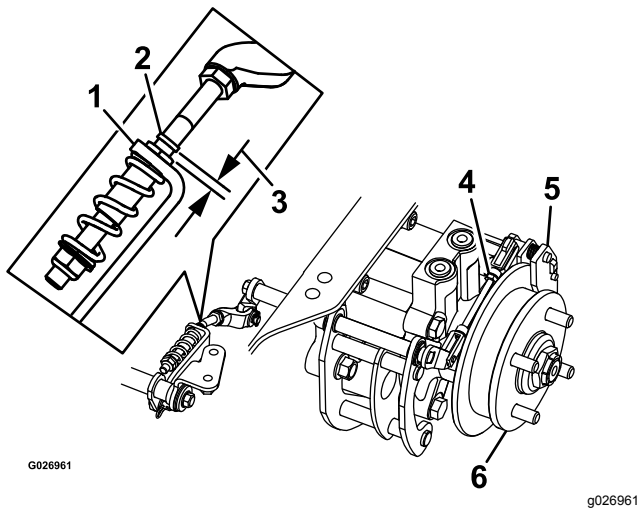

Figure 72
8. Check if there is a visible gap between the L-bracket and the linkage stop (Figure 72).